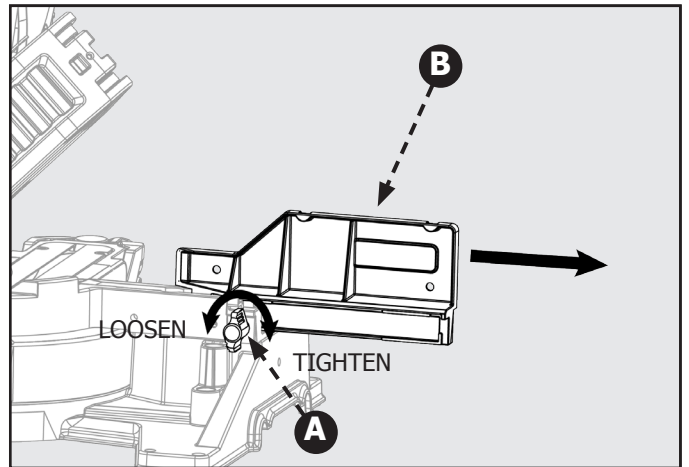

Figure 26
1. Loosen the fence lock knob (A). Slide the upper (adjustable) fence completely out of its track and set to the side. See Figure 26.